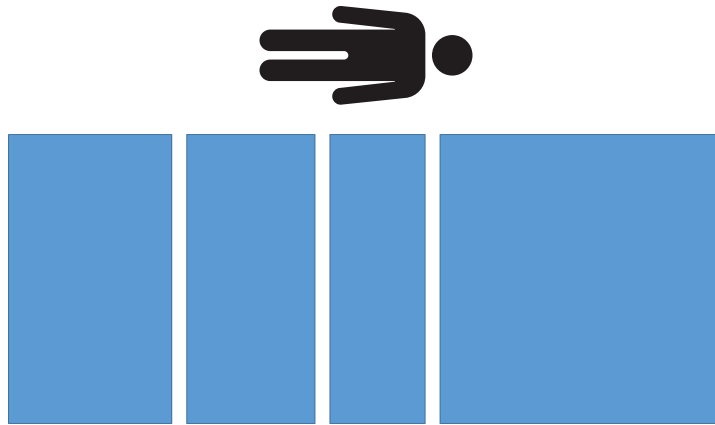

Figure 17 – Eccentricity test - no weight
5. Remove all calibrated weights from the product (Figure 17).